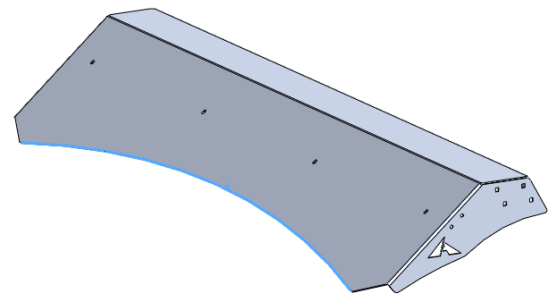

Figure 7: Rubber Trim Installation on Air Dam
5. Install rubber trim along front edge of air dam (Figure 7).